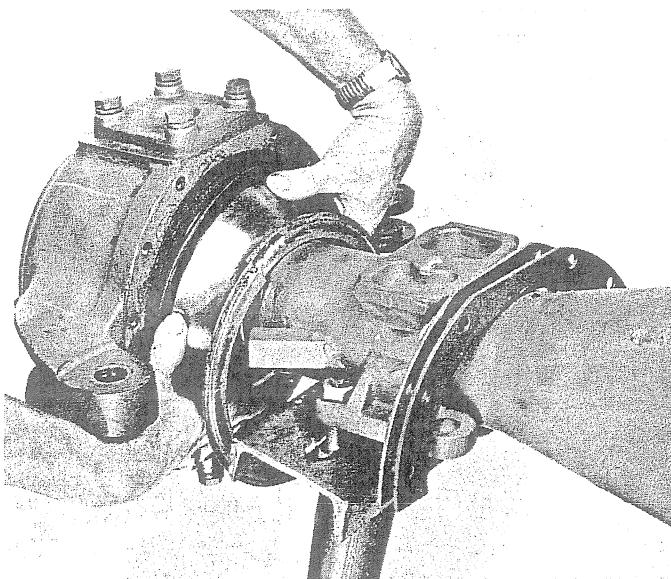

Fig. 94 - Positioning Seals
- d. Insert spring into groove around dust seal and carefully position dust seal as shown in Fig. 94. Hold seal in position shown and place outer retainer ring against seal.